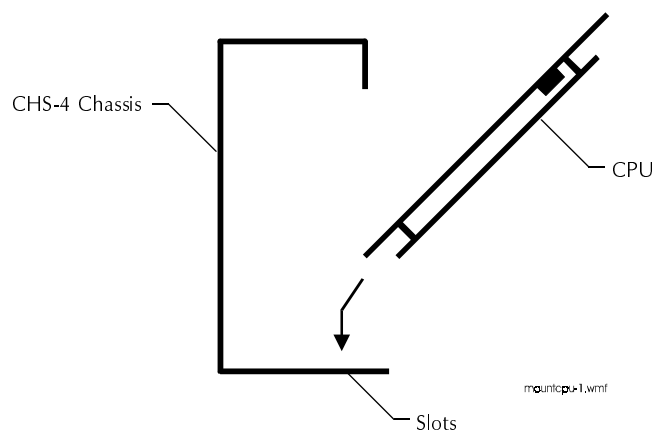

Figure 2-20 Inserting a CPU into a Chassis
1. Insert the two tabs of the CPU module into the two left-most chassis slots, angling the front end of the module into position as in Figure 2-20: